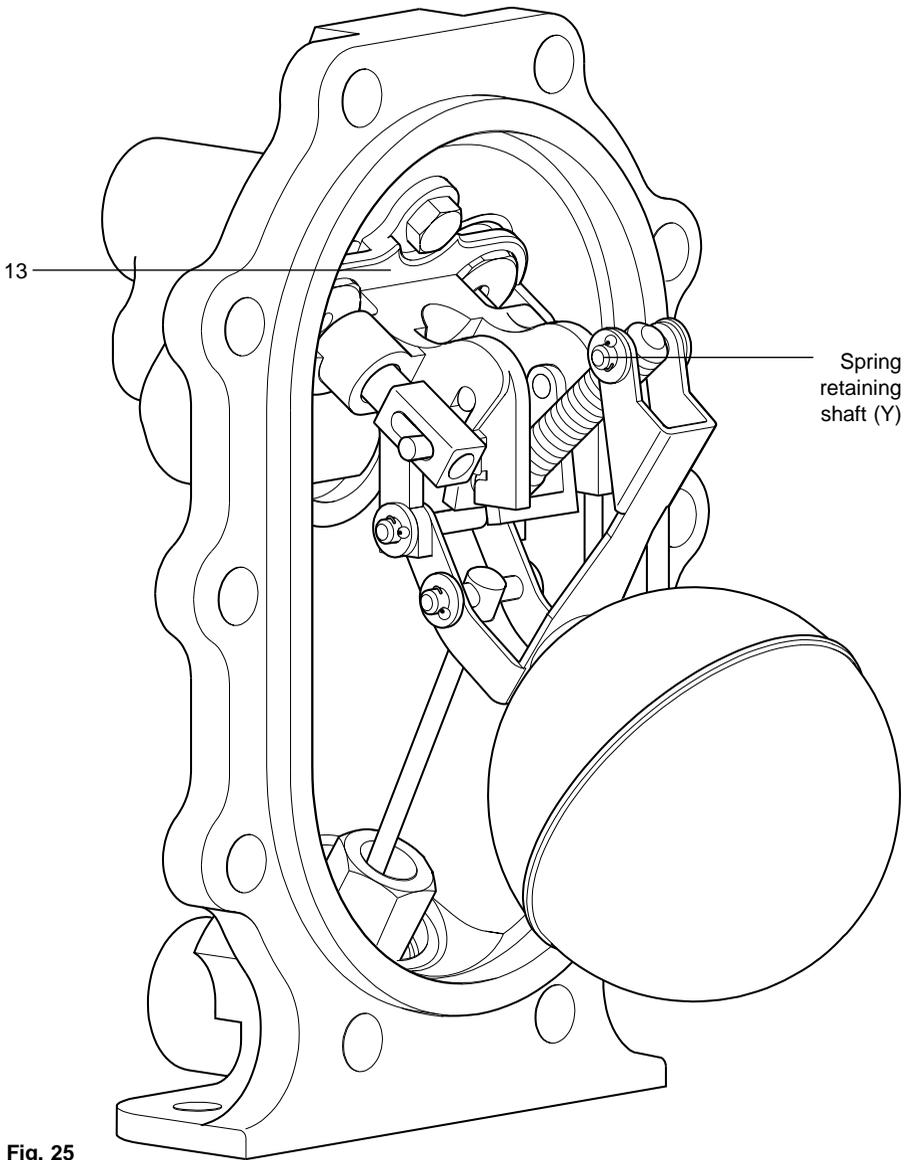

Fig. 25
19. Ensure the actuator is correctly aligned and located within the slots of the pump bracket (item 13).
21. Always use new split pins and washers when refitting the spring retaining shaft (Y) (30 mm long).
**Note:** The valve gear has been designed to be adjustment-free, simplifying the fitting of new parts. If after assembly the mechanism does not operate correctly, check all the parts are assembled and aligned as per Fig. 25.
25. Carefully reconnect the motive steam supply and the exhaust lines to the connections marked (S) and (E) and the condensate inlet and outlet to the connections marked (IN) and (OUT). The APT10-4.5 is now ready to recommission.